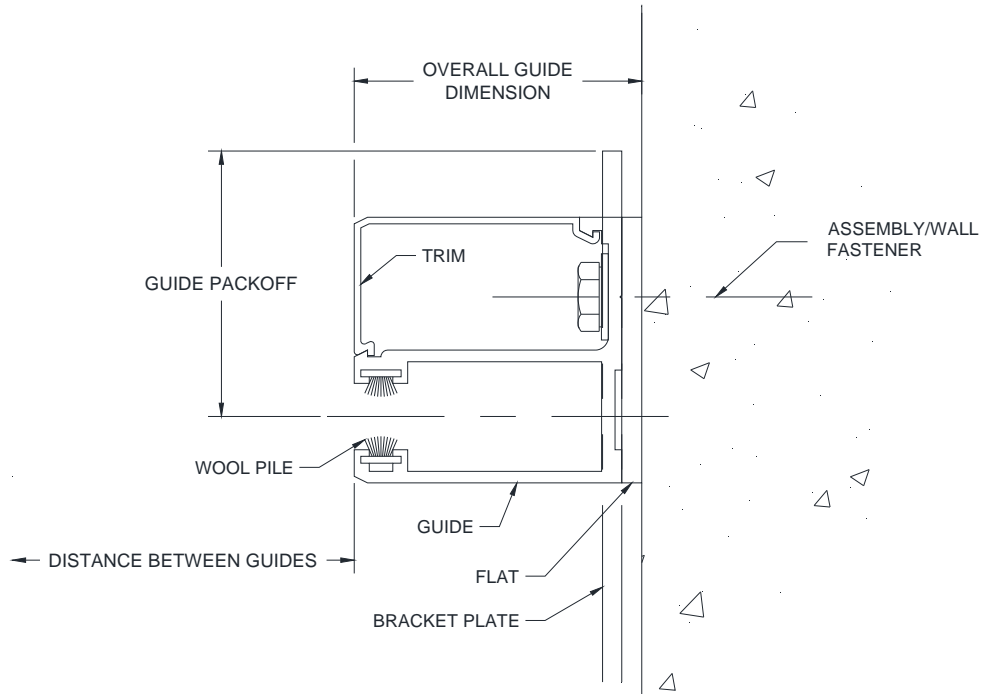

Figure 5.9 – Between Jambs with Back-Up Flat
- Between Jamb Units Mounting to Wall (Figures 5.9 - 5.10):